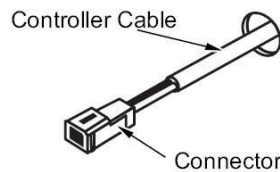

Fig. 2
3. Run the cable provided through the hole in the wall ensuring that the end fitted with the connector is nearest the controller (Fig.2).
3. Plug in the EZ Connect cable. The end marked "To EZ Connect" connects in the primary water heater to the 3 pin connector seen in Fig. 2. The other end, marked "To PCB", connects to the empty plug at the top of the PCB of the other water heater (sub unit.). (Fig. 2 and 3)
5. Attach pressure gauge to burner test point. (Fig. 2)